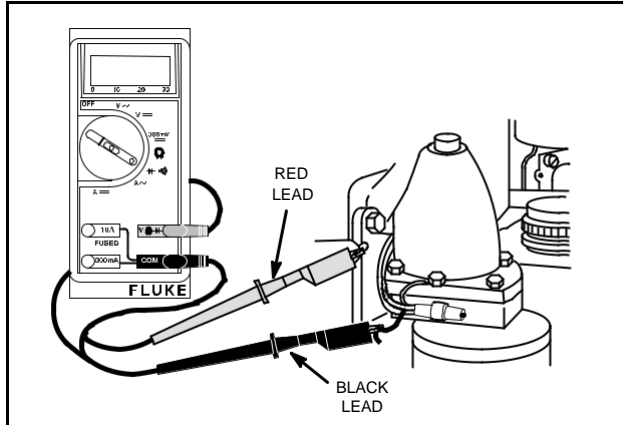

Fig. 742 – TESTING RECTIFIER
8. Pierce one stator output wire with a pin and touch BLACK test lead probe to pin as shown in Fig. 742.